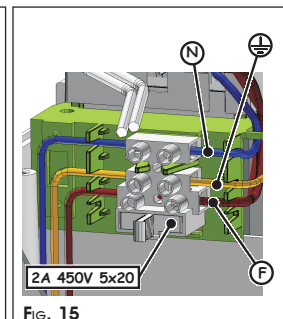

FIG. 15
- ② Connect the power cable, as shown in Fig.15. The earthing wire must also be connected. Make sure that the power cable wires are correctly fitted in the 'comb' which restrains them Fig. 15.